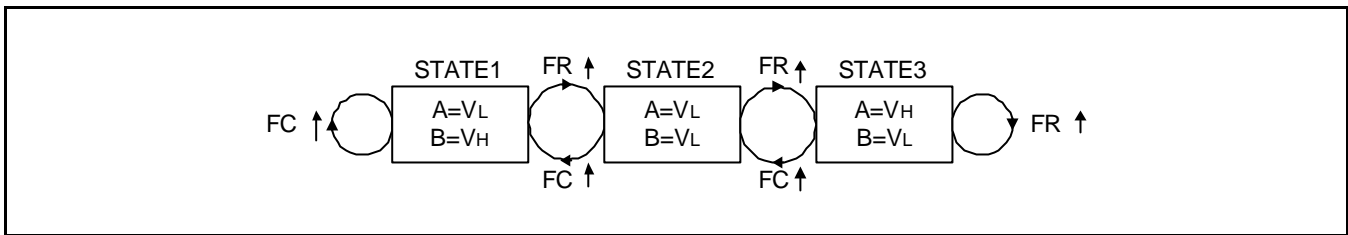

Figure. 9 PFD state diagram
States are changed on rising edges of Fr or Fc in Figure. 9(Fr moving to higher states and Fc moving to lower states) Suppose the circuit is initially in state 1, Then alternate rising edges on Fr and Fc will cycle between states 1 and 2. If Fc is constantly falling behind Fr in phase, as in the timing diagram(Figure. 11 A point), then eventually there will be two Fr rising edges without an intervening Fc rising edge. This will take the circuit to state 3, and thereafter it will cycle between state 2 and state3.
- make the frequency of Fc fast. (Figure. 9 state1)
- make the frequency of Fc slow. (Figure. 9 state3)